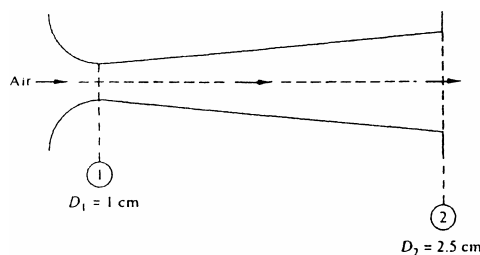

Fig. P3.22
3.22 The converging-diverging nozzle shown in Fig. P3.22 expands and accelerates dry air to supersonic speeds at the exit, where $p_2 = 8$ kPa and $T_2 = 240$ K. At the throat, $p_1 = 284$ kPa, $T_1 = 665$ K, and $V_1 = 517$ m/s. For steady compressible flow of an ideal gas, estimate (a) the mass flow in kg/h, (b) the velocity V_2 , and (c) the Mach number Ma_2 .